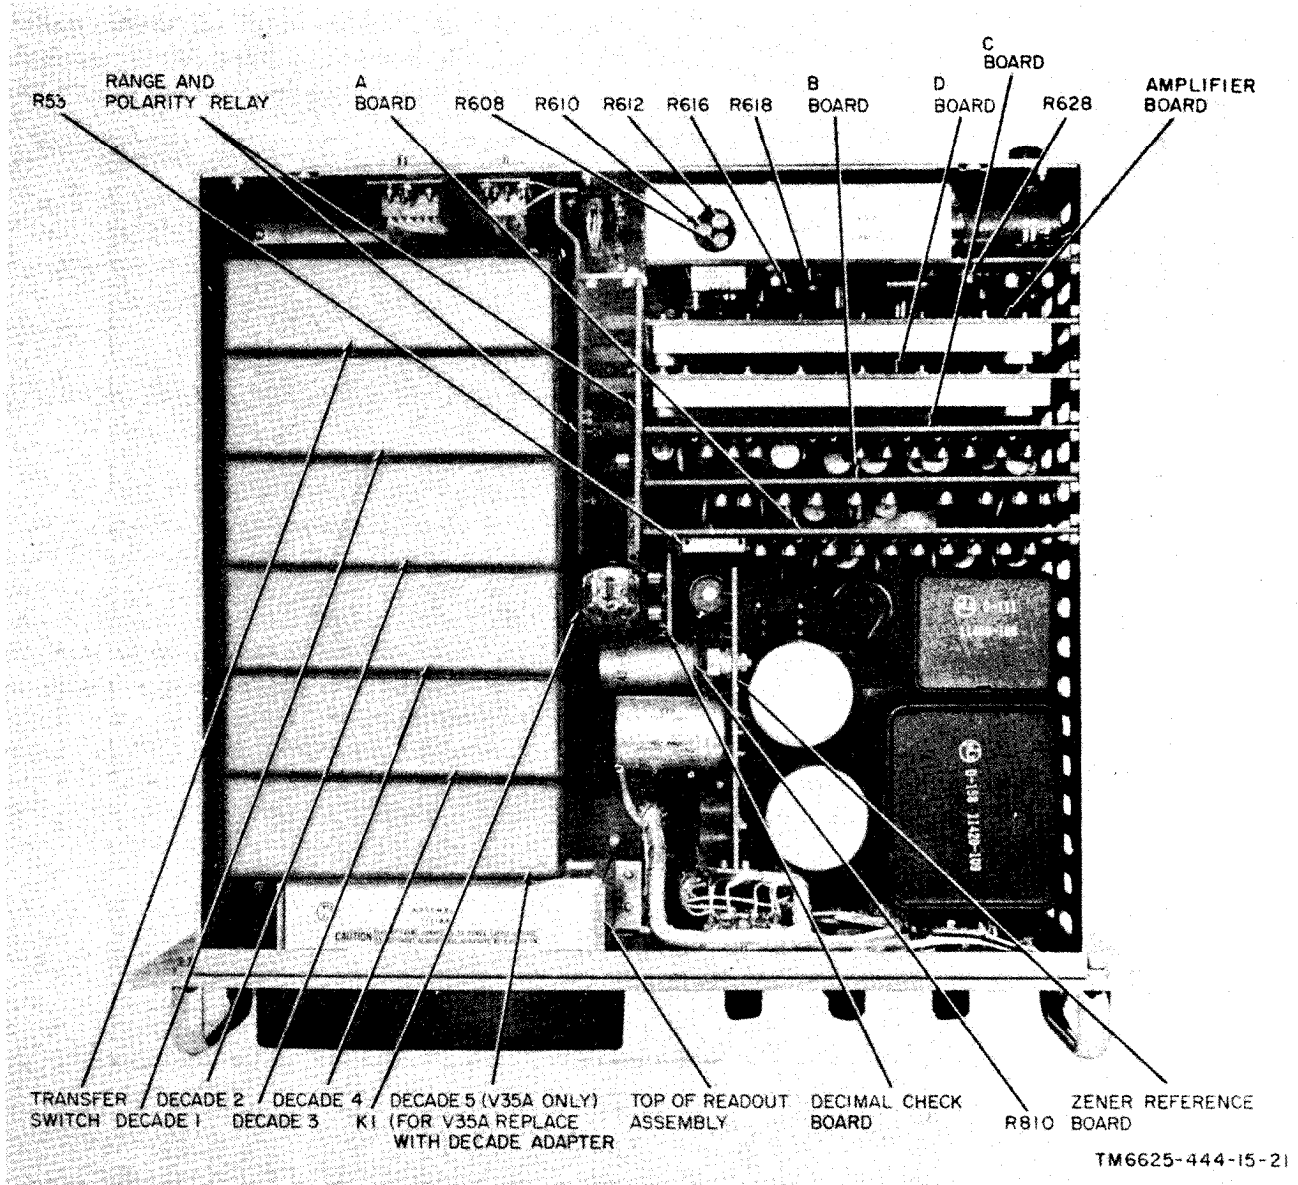
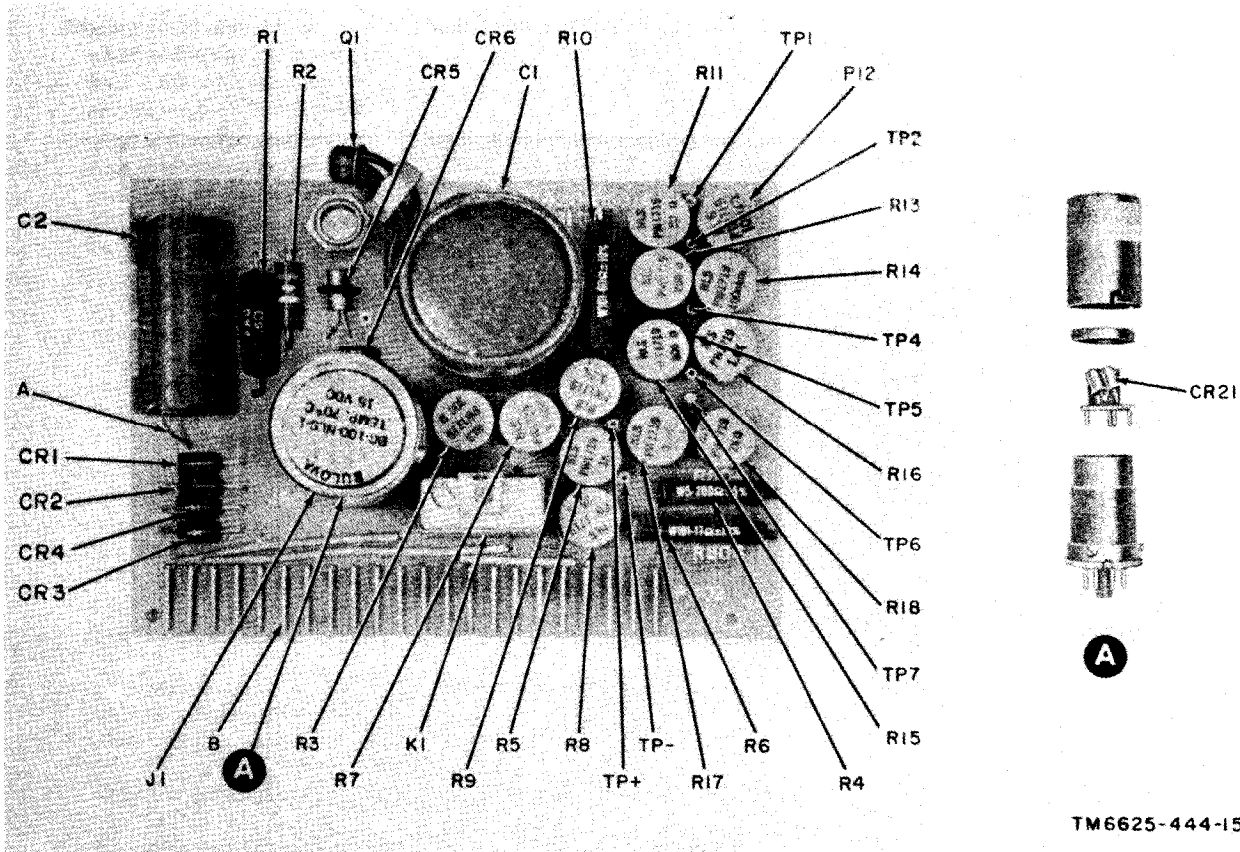

Figure 6-1. Digital Voltmeter AN/GSM-64 plug-in board assembly and adjustment control locations.
Figure 6-4. Zener supply assembly parts identification.
Zener oven -----	Across C1 (fig. 6-4).
a. General. The trouble may be localized by systematically replacing existing boards with spare boards until the trouble is remedied (fig. 6-1). If no spare boards are available, use the troubleshooting chart (*e* below). In the troubleshooting chart, procedures are outlined for checking the front panel controls, sectionalizing troubles to the digital or analog section, and localizing troubles to an assembly within one of the two sections.
(1) The digital section consists of the following assemblies:
(2) The analog section consists of the following assemblies:
b. Location of Parts. Parts locations for the nblies are indicated in figures 6-4 through 6-12.
c. Use of chart. When an abnormal symptom has been observed in the equipment, look for the symptom in the trouble symptom column and perform the corrective measure prescribed. (If no operational symptoms are known, the chart gives procedures for using a dummy amplifier to determine the symptoms.) If a dummy amplifier is not available, begin with item 3 of the Organizational Monthly Preventive Maintenance Checks and Services Chart (para 4-6) and proceed until a trouble symptom appears.
(1) Remove the top cover and the amplifier board (fig. 6-1).
(2) Insert the dummy amplifier in place of the amplifier board,
(3) Set the function switch to DC, the mode switch to STANDBY, and the power switch to ON.
(2) With the line voltage at 115 volts ac, measure 7.7 volts dc between TP- and TP+ (fig. 6-4), Vary the line voltage between 105 and 125 volts ac and observe that the voltage between TP- and TP+ does not vary more than ± 0.2 percent.
(3) If the regulation is within ± 0.2 percent, but the voltage is not 7.7 volts dc with a 115-volt line voltage, vary R4 and repeat the procedures given in (2) above until the condition is met.
(4) If it is not possible to reset the condition given in (3) above, measure 36 volts dc ± 1 across C2 with the line voltage at 115 volts. If the voltage across C2 is not correct, check CR3, CR4, R2, C2, and the ac supply to pins 16, 17, and 18.
(5) If the voltage across C2 is not correct, check Q1, CR6, and R3 through R9.
(6) If the voltage between TP- and TP+ is very low, or zero, CR21 is defective, or there is an open component in the associated circuitry,
(7) If the Zener oven power supply voltage is not correct (para 6-4), check HR21 and S21.
(8) Connect a 30,000-ohm resistor in series with a 1-microfarad (mf) capacitor between TP+ and pin 17. Connect the oscilloscope ground to pin 6 and the input to pin 5. The oscilloscope must be floating (isolated) from the powerline ground.